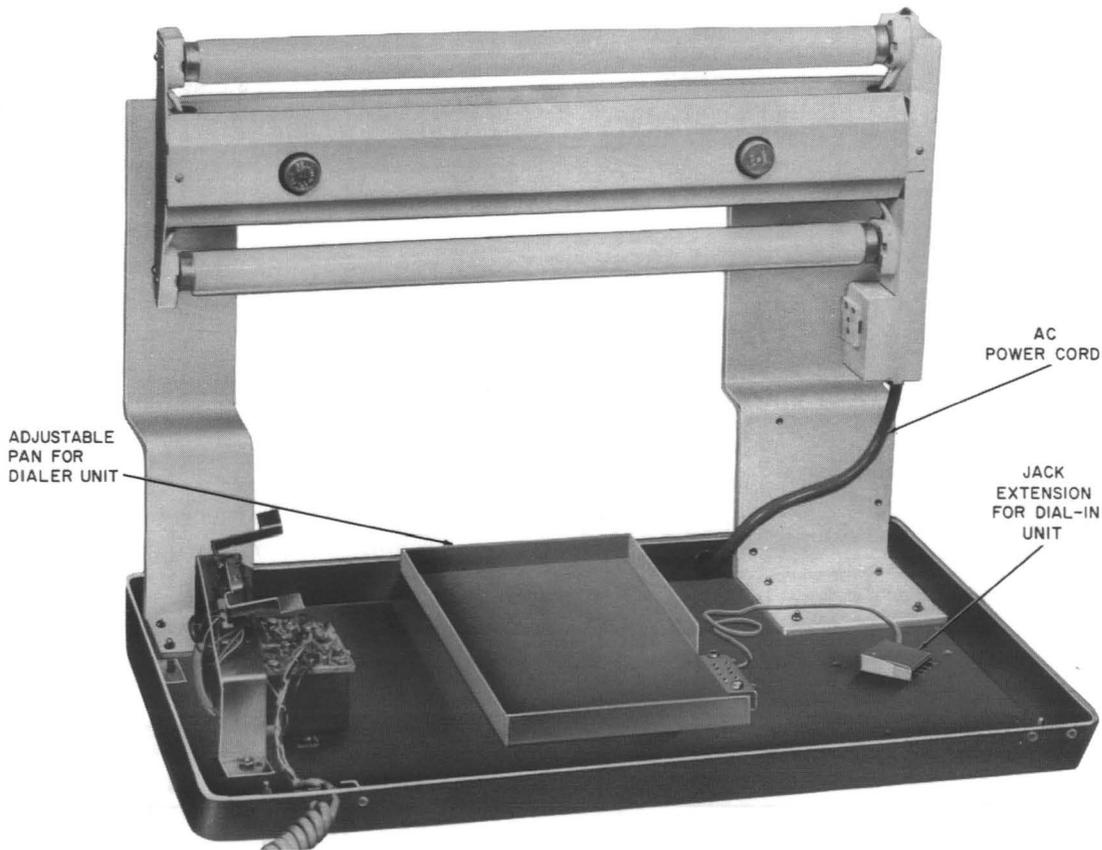

Fig. 4 — Interior View with Dialer Components Removed
- (2) The hardware to be used in securing the power supply and dialer unit to the frame is packaged inside the housing assembly. Fig. 4 shows the frame with the housing removed.
- (3) Loosen the cover retaining screw on the front of the power supply and remove the cover.
- (4) Secure the power supply chassis to the left rear of the frame using the hardware provided.
(7) Place the dialer unit in the pan assembly mounted in the center of the frame (Fig. 4). Connect the jack extension cable connector to the rear of the dialer. Dress the cables to facilitate removal of the dialer unit without disconnecting the jack extension cable.